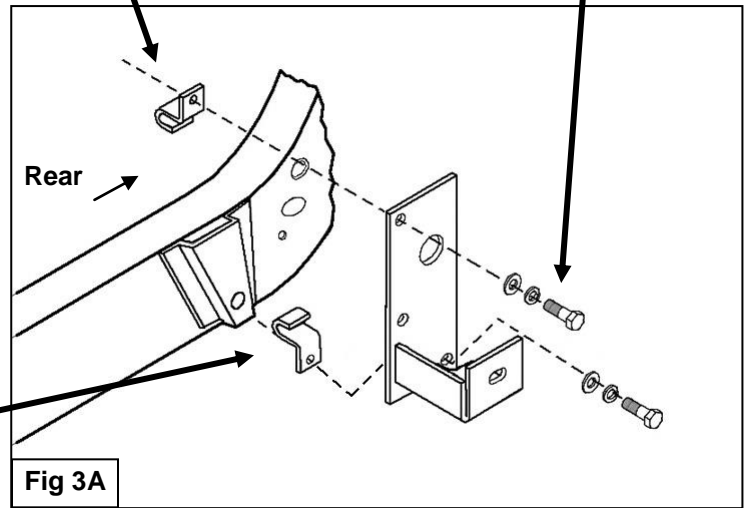
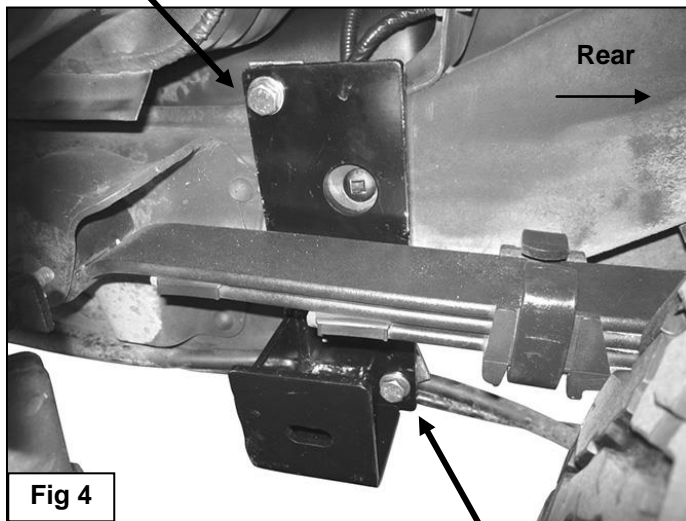

Fig 3A
Fig 4
- Move along the side of the vehicle to the rear mounting location at the front of the leaf spring mount. Select (1) 12mm Hook Plate, **(Figure 2A)**. Hook the Hook Plate onto the top edge of the frame, **(Figure 2B)**. Position the driver side rear Mounting Bracket up against the frame between the leaf spring and frame, **(Figures 3A & 3B)**. Attach the rear Bracket to the top Hook Plate with (1) 12mm x 45mm Hex Bolt, (1) 12mm Lock Washer and (1) 12mm x 24mm Small Flat Washer, **(Figure 4)**. Leave hardware loose at this time.